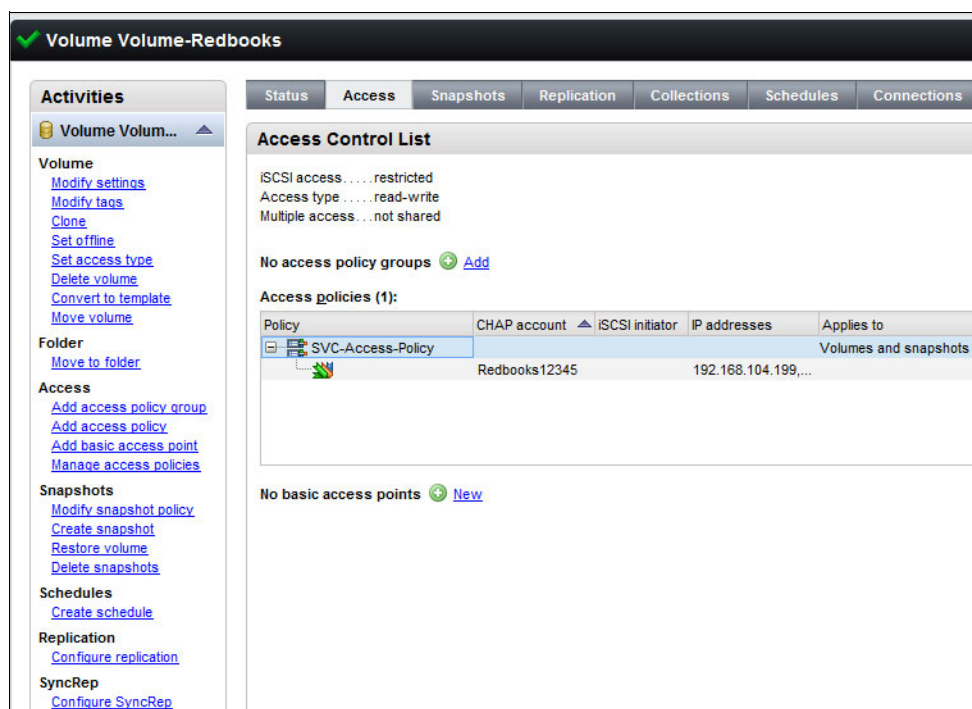

Figure 14-22 Window to validate access policy application
- To validate the access policy application, you must view the **Access** tab of the volume, as shown in Figure 14-22. This tab gives you information about the access policies for the selected volume. Other access policies can be added by clicking **Add** for access policies.